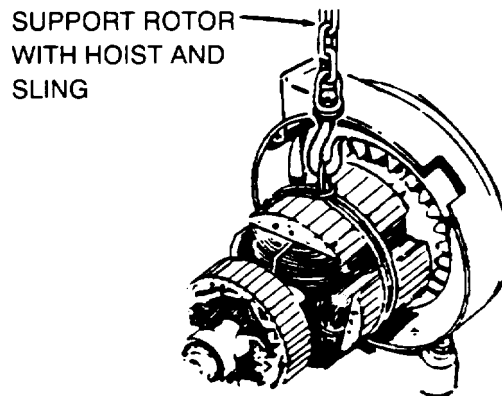

Figure 4-23. Support of Rotor Assembly
- j. Using lifting device attached to stator (14) lifting point, carefully pry loose (screwdriver slots provided), and remove stator (14) from engine/generator adapter (15).
- k. Use rope sling to support rotor (16), refer to Figure 4-23.
- c. Install engine flywheel/generator fan (20) on engine crankshaft with bolts (32). Torque bolts (32) to 51 ft-lbs. (69 Nm).
- d. Install thru-bolts (31) in adapter (15).
- e. Press exciter rotor (30) on rotor assembly(16) to shoulder of shaft. Connect F1 + and F2- leads (29) on rotating rectifiers with nuts (27) and washers (28), and remove tags. Torque nuts (27) to 24 in-lbs (2-7 Nm).
- f. Press bearing (26) onto shaft of rotor assembly (16).
- g. Install drive disc (25) on rotor assembly(16) with lockwashers (24), washers (23), and bolts (22). Torque bolts **(22) 48** to 53 ft-lbs (65 to 72 Nm).
- h. Using rope sling and lifting device (Figure 4-23), install rotor assembly (16) on engine flywheel/generator fan (20) with lockwashers (19), washers (18), and bolts (17). Torque bolts (17) 19 to 21 ft-lbs (26 to 28 Nm).